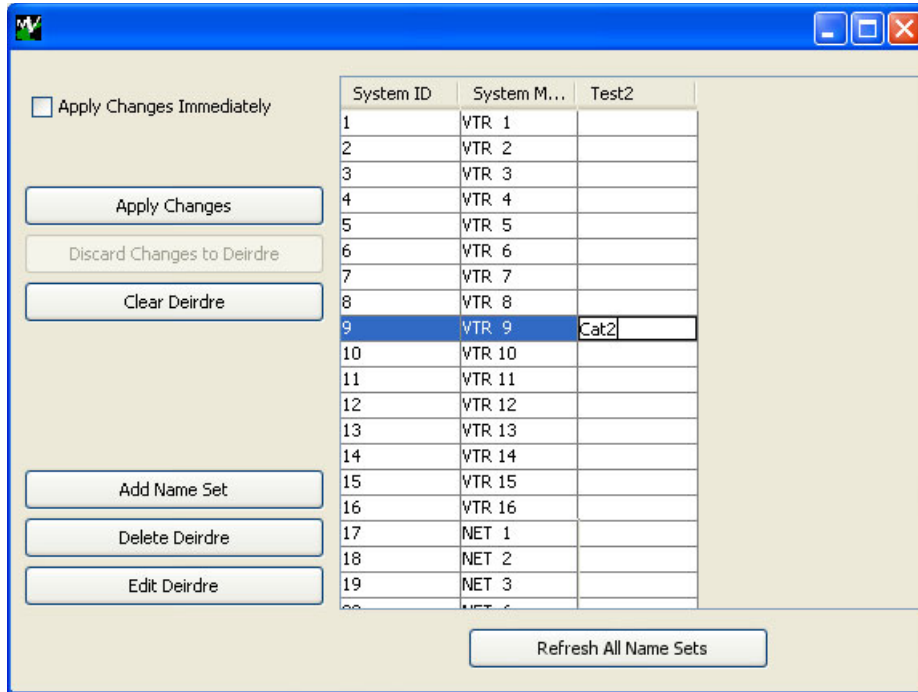

Figure 17-3. Name Sets Window with Name Set
- 3 Right-click on the system controller you are currently working with and from the pop-up menu select 'Edit Name Sets'. The 'Name Sets' window appears, as shown in Figure 17-3. All name sets currently defined in the system are listed.